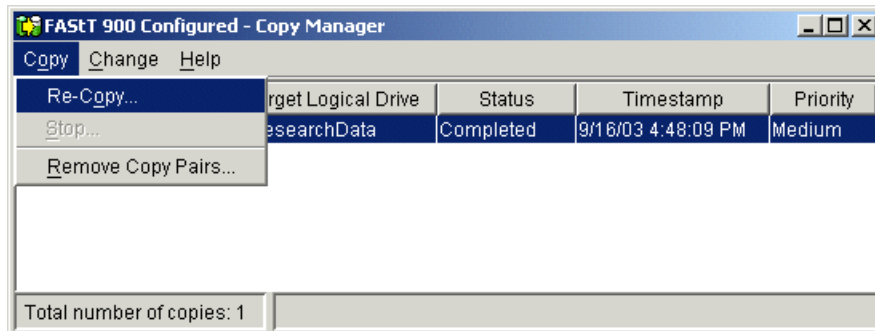

Figure 9-15 Copy Manager - Re-Copy menu
3. Select either the **Logical Drive -> Copy -> Copy_Manager** pull-down menu option, or **Copy Manager** from the right-mouse pop-up menu. The Copy Manager window is displayed. as shown in Figure 9-15.